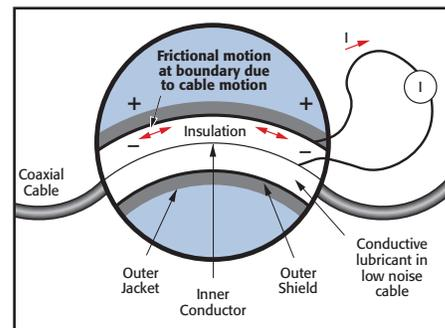

Figure 4
**Triboelectric effects** are created by charge imbalance due to frictional effects between a conductor and an insulator, as shown in Figure 4. Keithley's low noise cables greatly reduce this effect by introducing an inner insulator of polyethylene coated with graphite underneath the outer shield. The graphite provides lubrication and a conducting equipotential cylinder to equalize charges and minimize the charge generated.